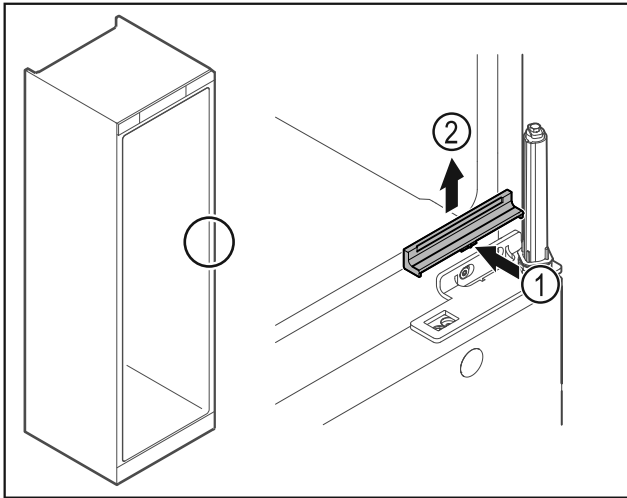

Fig. 26
- ▶ Gently press the middle of the cover Fig. 26 (1) and lift it off Fig. 26 (2).